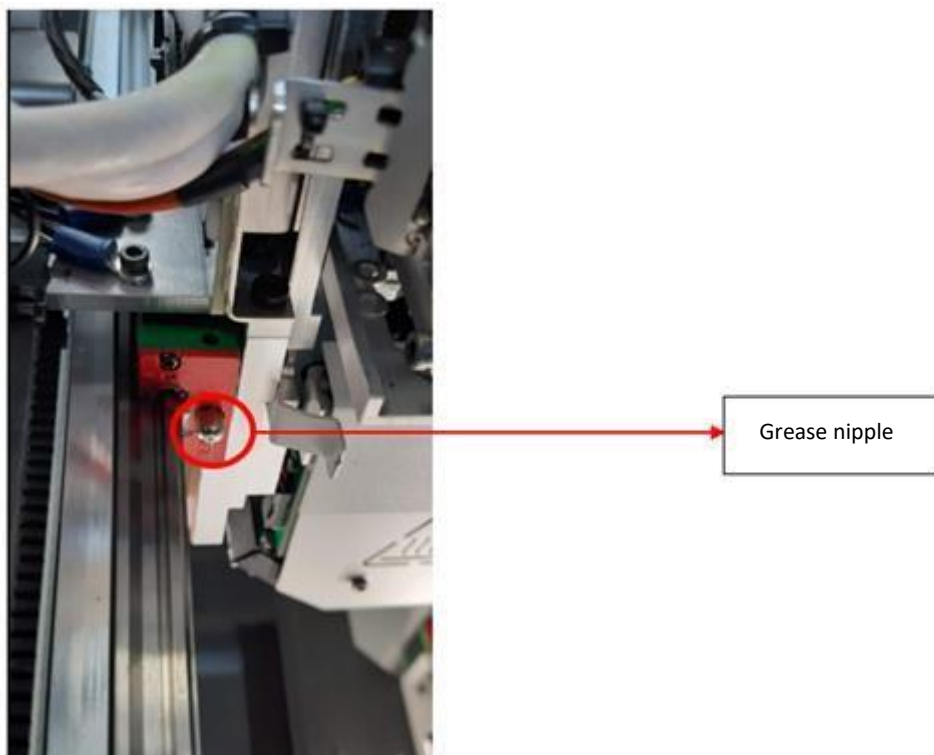

Fig. 33 Lubricating the Y axis
- Move the module forward to the front of the printer until it stops to access the Y axis linear carriage grease nipple (Fig. 33).